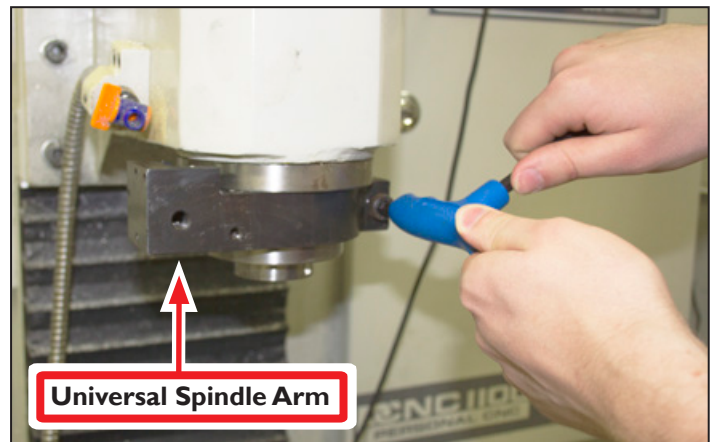

Figure 2.18
3. Using an 8 mm hex wrench, loosely secure one M10x30 mm socket head cap screw (included) to Universal Spindle Arm (see **Figure 2.18**); do not tighten down completely.